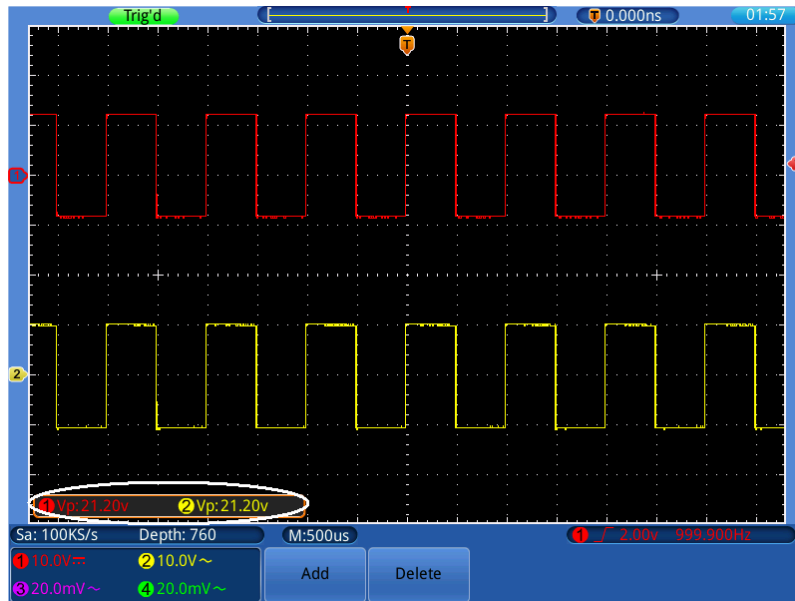

Figure 7-2 Waveform of Gain Measurement
- (1) Press the **Autoset** button and the oscilloscope will automatically adjust the waveforms of the two channels into the proper display state.
- (2) Press the **Measure** button.
- (3) Select **Add** in the bottom menu.
- (4) Select **Source** in the right menu; select ① in the left menu.
- (5) Select **Type** in the right menu; select **PK-PK** in the left menu.
- (6) Select **Add** in the right menu.
- (7) Select **Source** in the right menu; select ② in the left menu.
- (8) Select **Add** in the right menu.
- (9) Read Vp of Channel 1 and Channel 2 from the measure window at the bottom left of the screen (see *Figure 7-2*).
- (10) Calculate the amplifier gain with the following formulas.